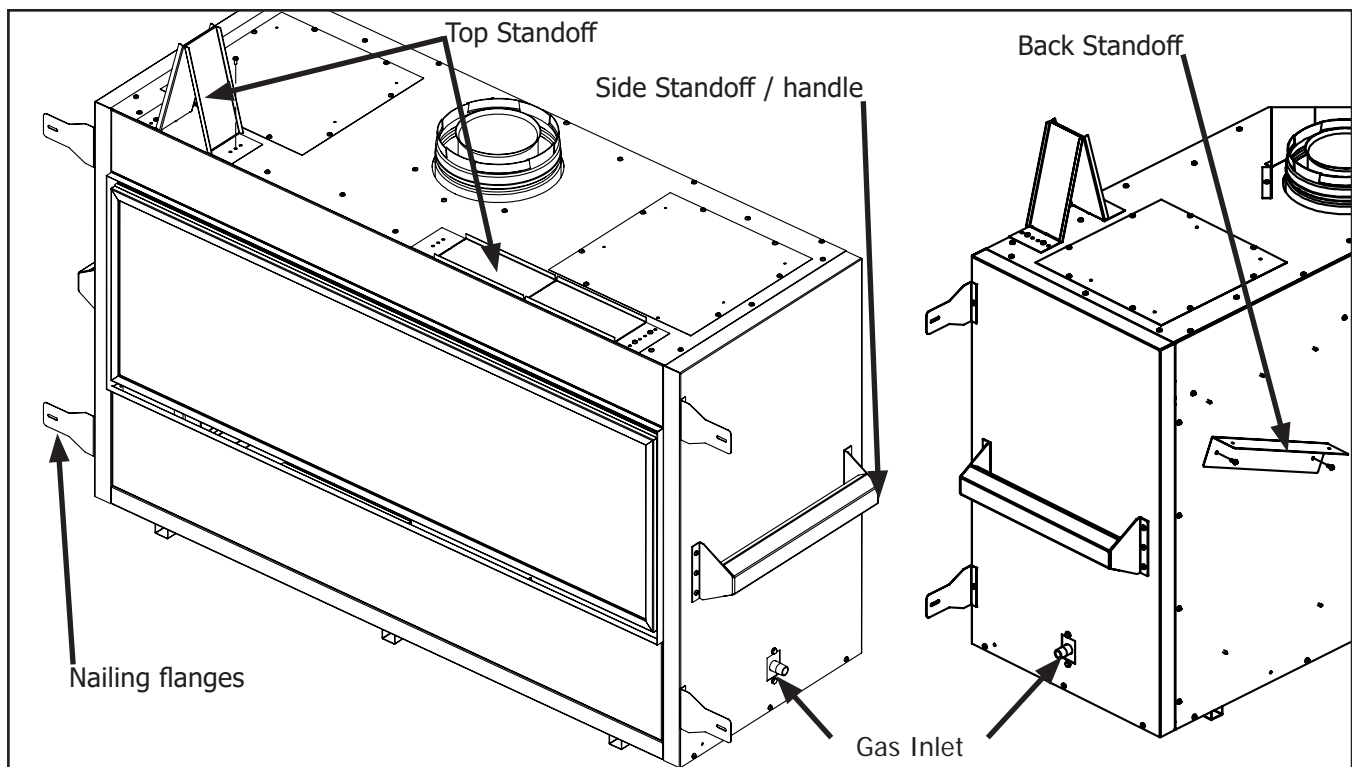

Figure 26: Fireplace Install Preperation
Take a minute to familiarize yourself with Figure 26 below.
- The top framing standoff will need to be folded up and secured on one side with a T-20 screw, This can be seen in Figure 26.